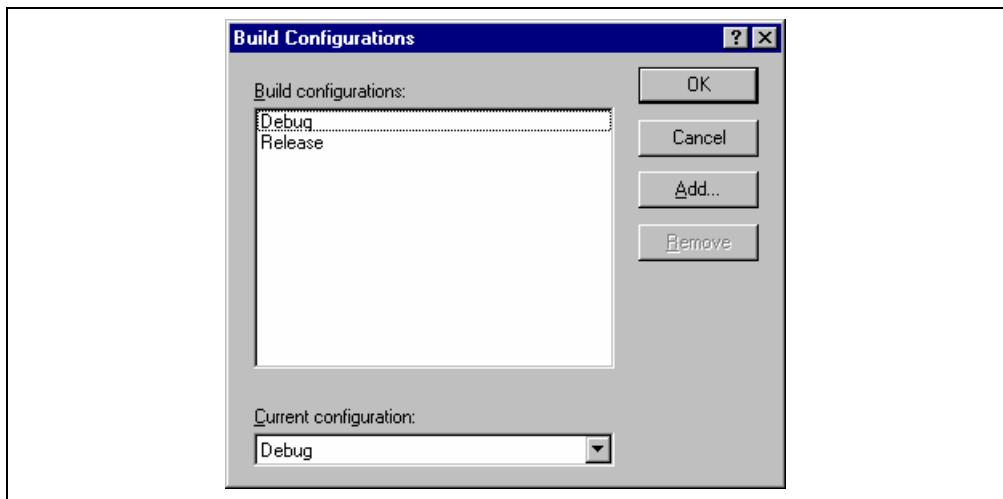

Figure 2.16: Build Configurations Dialog
1. Select **[Options->Build Configurations...]**. This will invoke the “Build Configurations” Dialog (figure 2.16).
1. Select [**Options->Build Configurations...**] to display the “Build Configurations” dialog (figure 2.16).